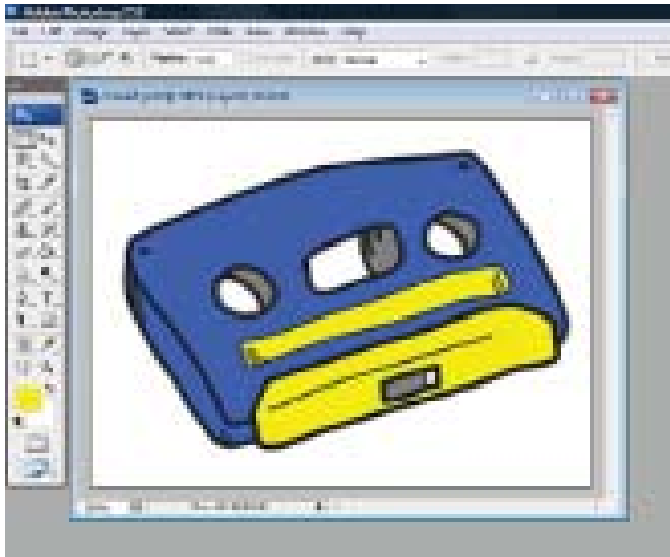

Figure 2 - Pixelation Due to Low Resolution Scan
1. Open the rasterized graphic in Photoshop. In this example, an element has been hand-drawn for use in a logo. Notice how the image contains rough, jagged edges, known as pixelation, from the low-resolution scan (FIGURE 2). This is of a typical quality a print shop may receive from some micro-business clients.